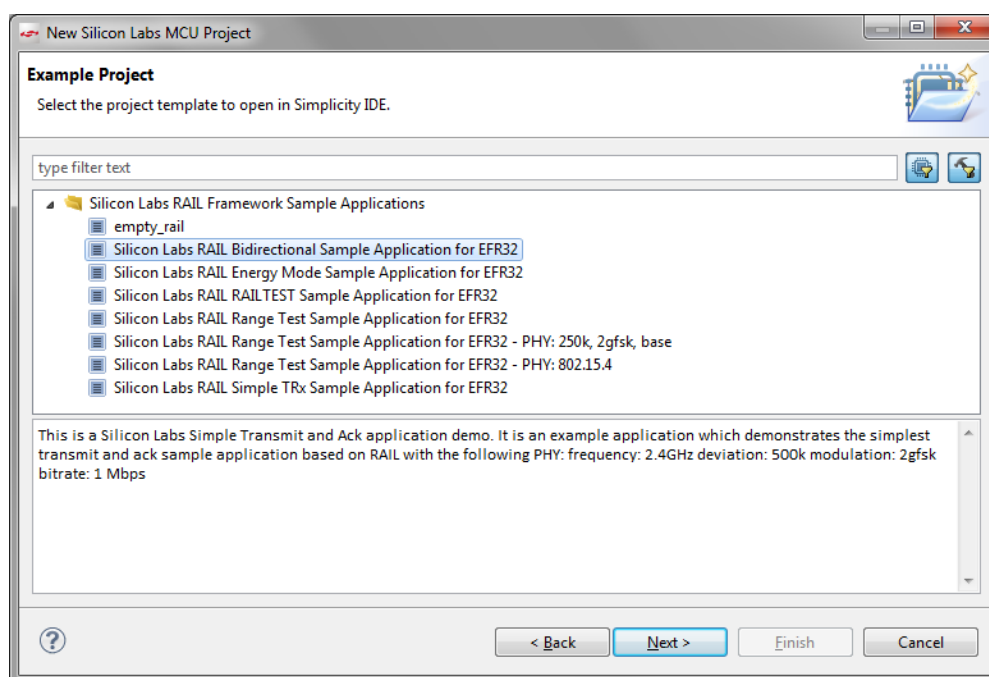

Figure 17. Sample Applications Dialog
4. Select an example from the list (Figure 17).